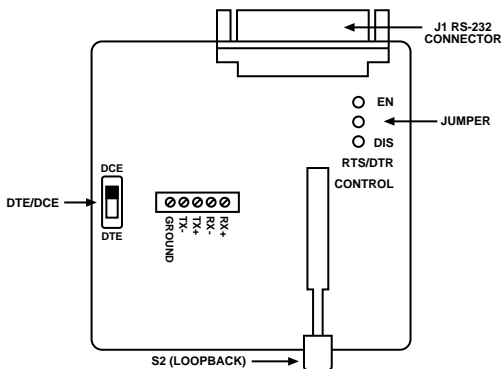
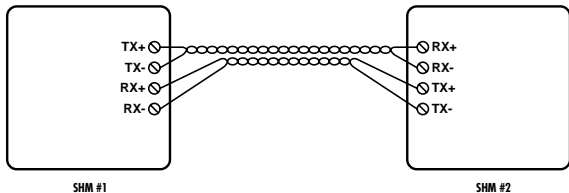

Figure 1. SHM-B board; 5-screw terminal block.
Figure 2. Wiring diagram for two SHM-B units.
Figure 1 shows the location of the terminal block on the circuit board. Refer to Figure 2 to make the proper connections between two SHM-B units.
Refer to Figure 1 in this chapter. Switch S1 is used to reverse the TD and RD lines on the EIA-232 interface. This eliminates the need to swap these two lines in your EIA-232 cables. If you connect the SHM-B to your equipment using a “straight-through” or “2:2” cable, then S1 must be set to the opposite of your device’s configuration. For example, if your device is configured as DTE, select DCE on S1. If you use a “2:3” or “3:2” cable to connect the SHM-B to your equipment, then the setting for S1 will be identical to your equipment’s setting. Refer to your equipment’s manual for
Wire each SHM-B board according to Figures 1 and 2 in this manual. It is easiest to first feed all of the wires and cables through the rack. Then you can make the necessary circuit board connections with the circuit boards positioned in front of the rack; this allows for the
2. Inspect the wiring between the two modems. Have the wires been properly installed? Transmit + (TX+) on one modem must be wired to Receive + (RX+) on the other modem; also, Transmit - (TX-) must be wired to Receive - (RX-). Refer to Figure 2 during your inspection of the four-wire circuit.
1. Check for reversal of polarity on the four-wire connection. Refer to **Section 3.1** and Figure 2.